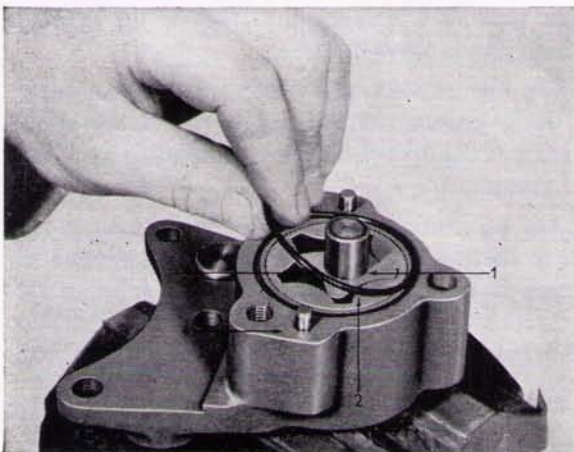

Fig. P.6.
7. Remove the "O" sealing ring from the pump body. See Fig. P.6.